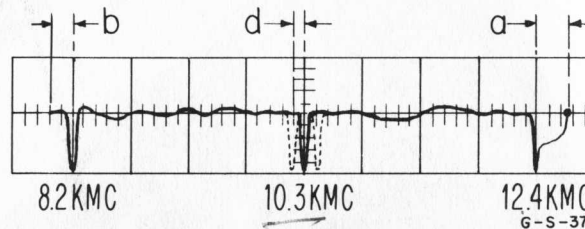

Figure 4-11. Calibration Pips on C. R. O. Sweep
Note: R244 and 246 interact (see Figure 4-11).
- 10) Adjust length of X-band with vernier of horizontal cro amplifier to 8 cm (see Figure 4-11).